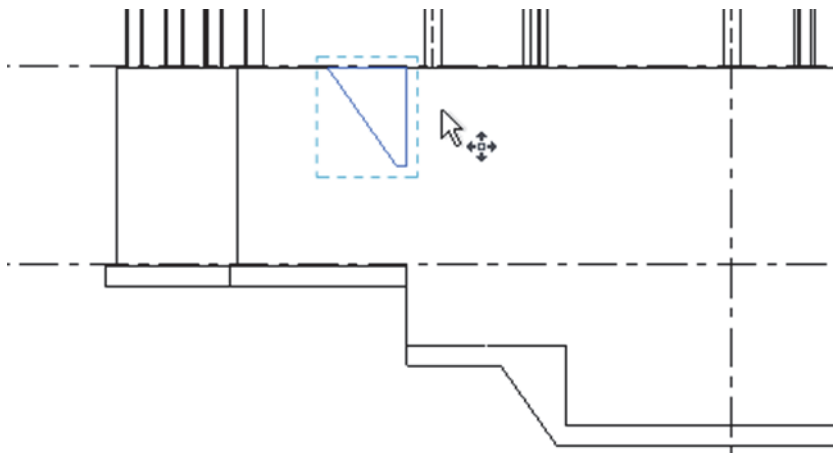

Figure 7-17
6. Move the footing to the correct location. As long as it is in line with another footing it automatically cleans up as shown in Figure 7-17.